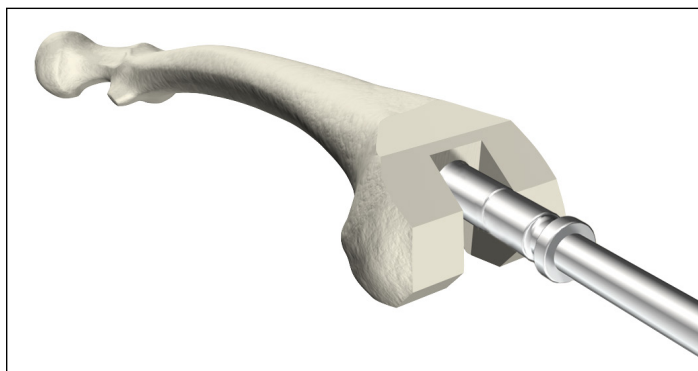

Figure 59
4. If the reamer diameter is less than 16mm, prepare for the boss of the Femoral Component by reaming over the top of the IM Reamer shank with the Boss/Offset Reamer. Ream until the step on the Boss/Offset Reamer lines up with the planned resected bone depth (**Figure 59**).